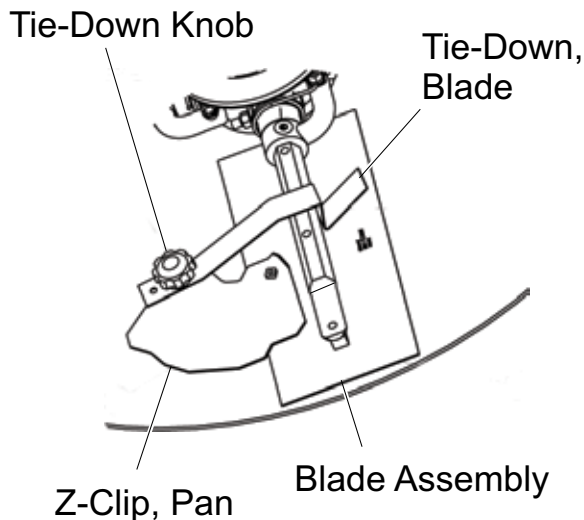

Figure 45. Z-Clip Finisher Pan Installation
2. Rotate blades into position under Z-Clips (Figure 45). Ensure that the blades are rotated in the direction of travel when the machine is in operation or use the engine to rotate the blades into position.
3. Attach the blade tie-downs to the far side of the Z-Clip brackets with tie-down knobs as shown in Figure 45.